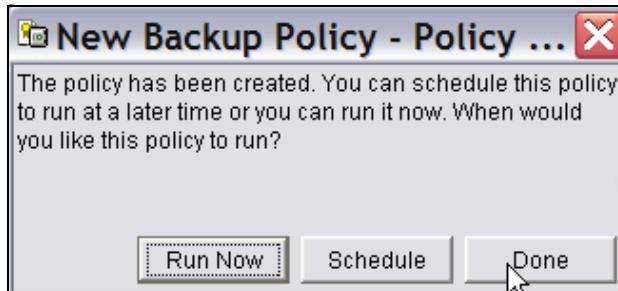

Figure 5-42 BRMS backup policy, run now or later
29. In the window shown in Figure 5-42 on page 230, click **Done**.